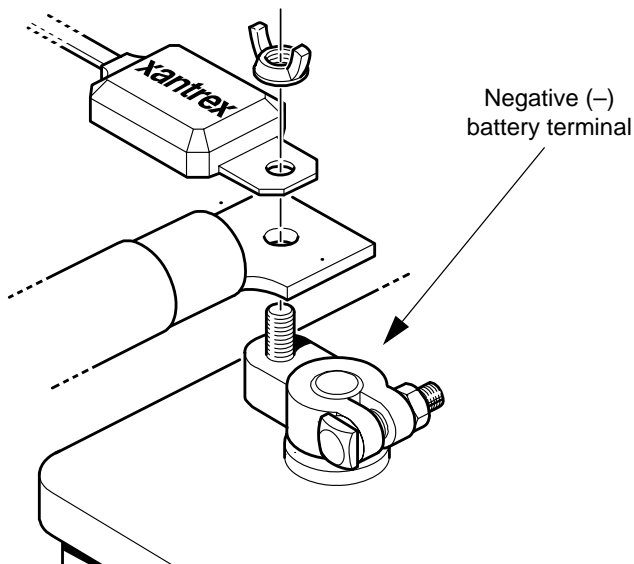

Figure 7 BTS Mounted on the Negative Battery Terminal
6. Mount the sensor directly on top of the ring terminal, as shown in Figure 7, and firmly tighten the terminal nut.